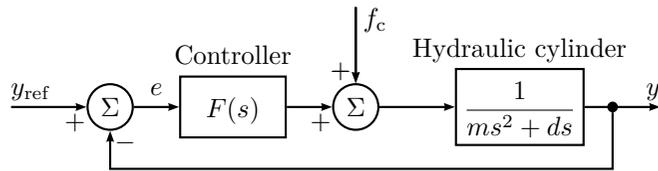

Figure 3.3a
3.3 Figure 3.3a shows the block diagram for a hydraulic servo system in an automatic lathe (Swedish: *svarv*). The output signal  $y(t)$  represents the position of the lathe tool (Swedish: *svarvstål*),  $y_{\text{ref}}(t)$  is the desired position of the lathe tool,  $m$  is the mass of the tool slide (Swedish: *verktygsslid*) and the hydraulic piston (Swedish: *kolv*),  $d$  is the viscous damping of the tool slide,  $F(s)$  is the transfer function for the controller,  $f_c$  is the cutting power.